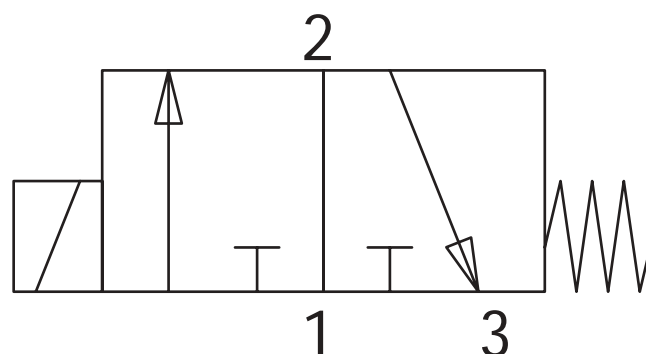
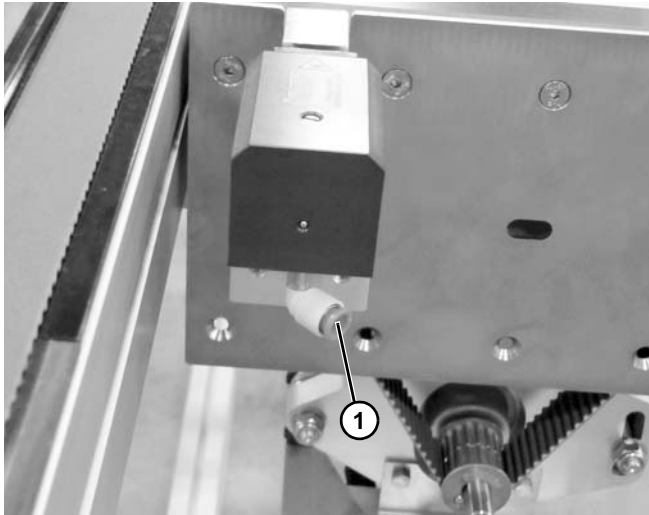

Figure 36
Figure 38
Dorner recommends using a 3 port, 2 way solenoid valve (**Figure 36**) to operate cushion reset.
3. Connect port 2 (**Figure 36**) of the 3 port, 2 way valve to the cushion reset port (**Figure 38, item 1**).